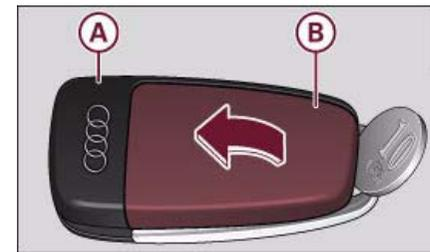

Fig. 34 Remote control key: Opening the cover
- **Carefully** prise apart the key \Rightarrow fig. 34 **A** and the cover **B** using a coin.